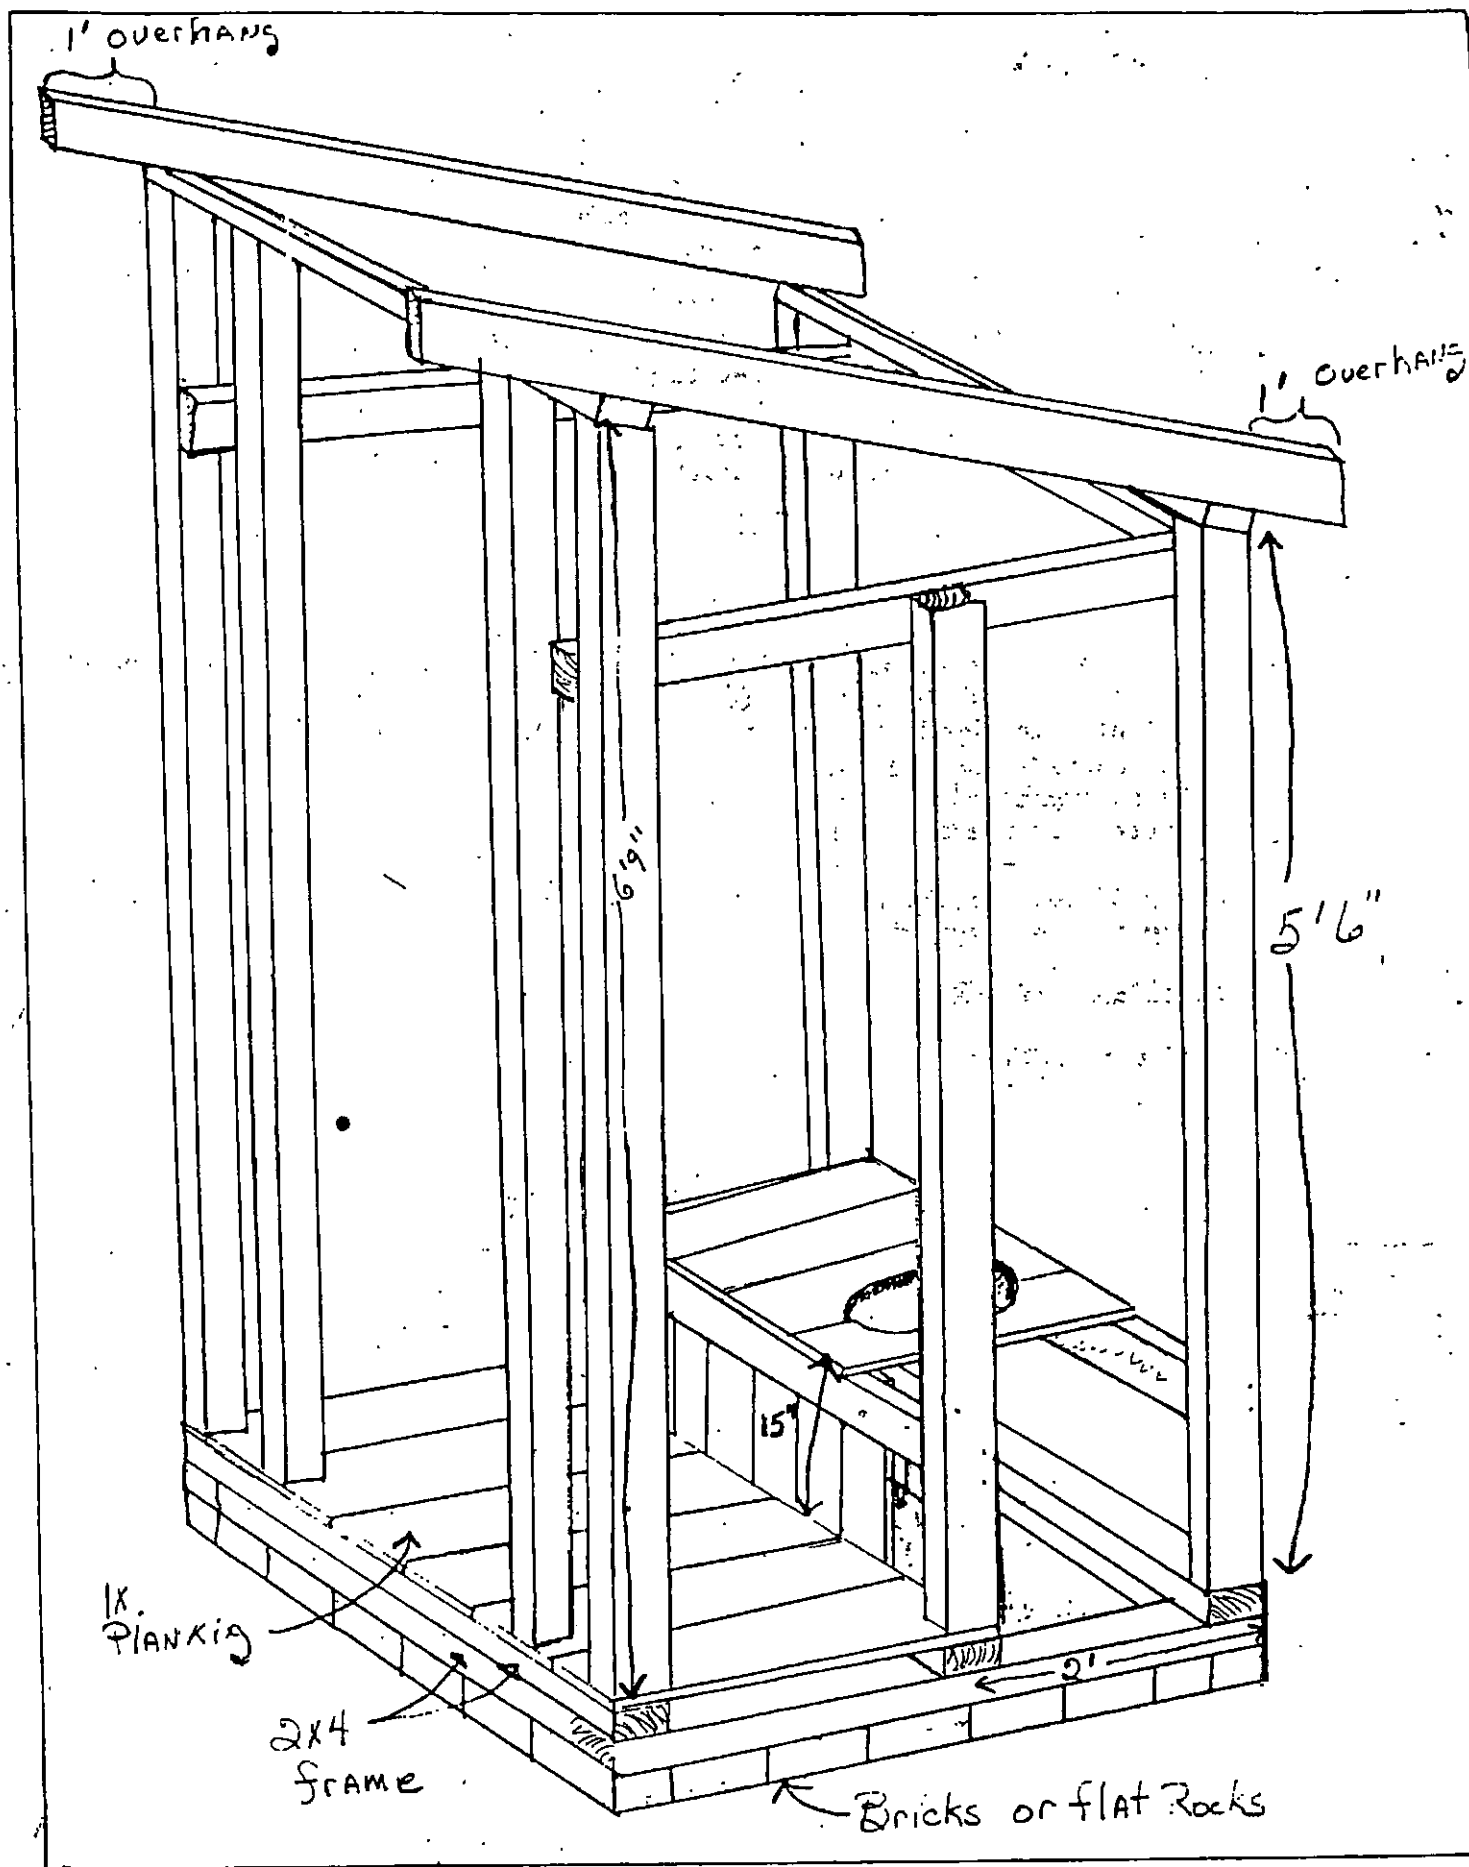

FIGURE 76
- Step 4. Build 2 x 4 frame as shown in sketch. (See Fig. 76)